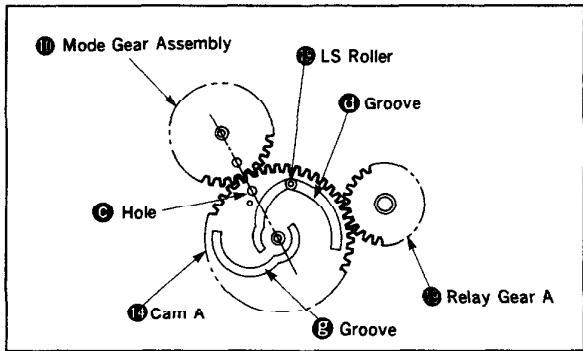

Fig. 31
- 2) Set a direction of the cam A ⑰ so that the hole ② of the cam A ⑰ will be aligned with the hole of the mechanical chassis. (Fig. 31)
- 3) Move the GL slider ⑬ so that the LS roller ⑬ will be placed into the groove ④ of the cam A ⑰. At the same time, engage the mode gear assembly ⑫ with the gear of the relay gear A ⑰, and mount the cam A ⑰. Insert a stick of about $\phi 1.5\text{mm}$ in the hole ③ of the cam A ⑰. (Fig. 31)